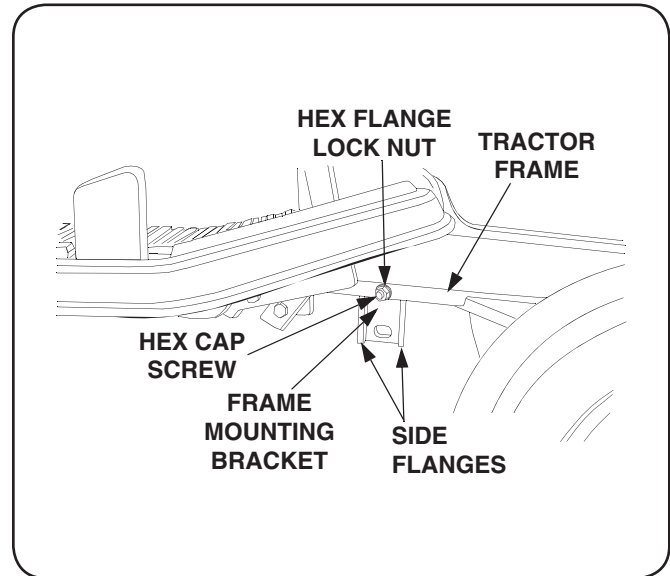

Figure 4-10
- a. **Series 2000 & 2500 Tractors Before Mfg. Date J315.** Looking beneath the front of both running boards, locate the forward most open hole in each side of the tractor frame. Refer to Figure 4-10.